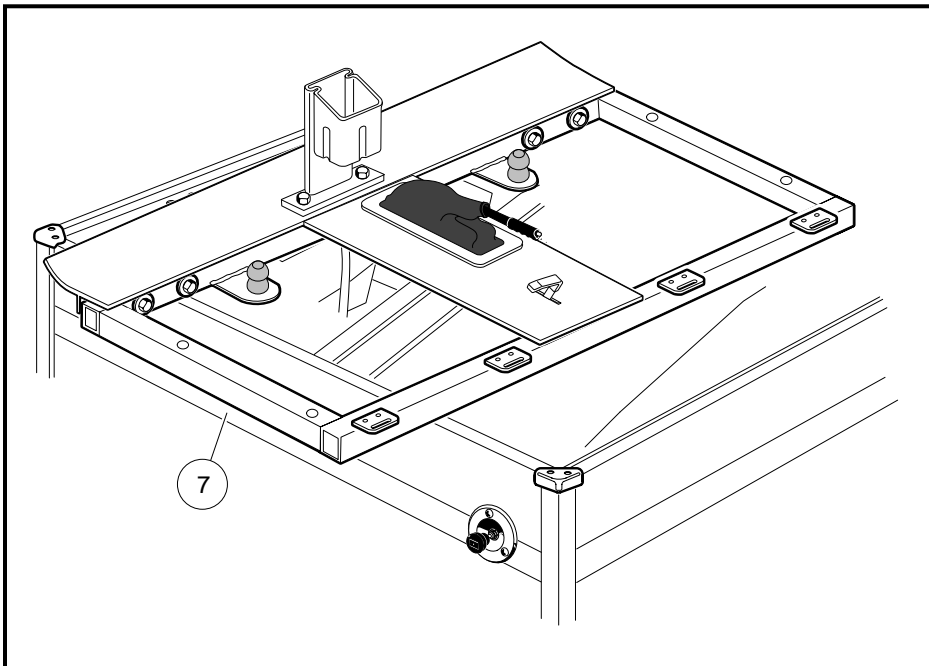

Figure 12-33 Battery Removal
7. Carefully lift and rotate the seat support (1) 90° clockwise and allow it to rest on the vehicle body as illustrated (**Figure 12-33, Page 12-34**). **See following NOTE.**